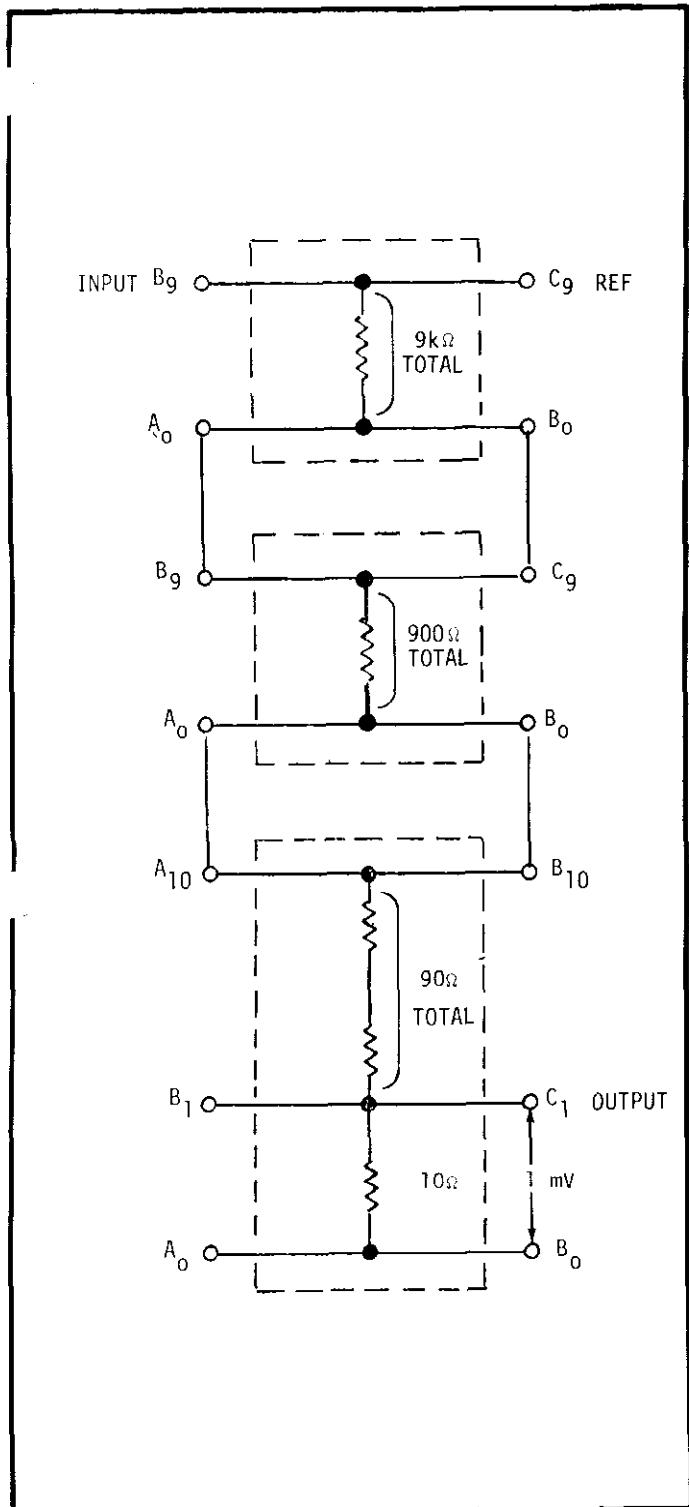

FIGURE 40. Voltage Divider Connections, 1mV Output.
a). Connect Voltage Divider for 1:1000 division ratio as shown in Figure 40.